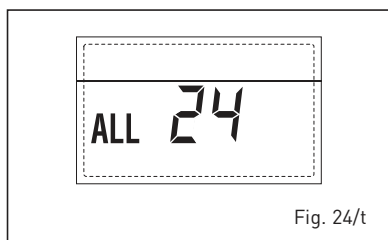

Fig. 24/t
– **ANOMALIA GUASTO SONDA BOLLITORE SOLARE S2 "ALL 25" (fig. 24/u)**